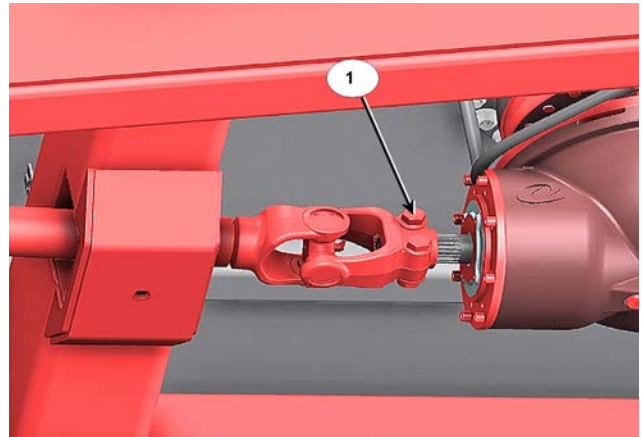

Figure 8: Attach the Driveline to the Screw Planetary
5. Attach the driveline to the splined shaft of the gearbox and to the screw planetary, see *Figure 8*.
- b. Tighten the driveline fasteners (1) to the front screw planetary splined shaft.